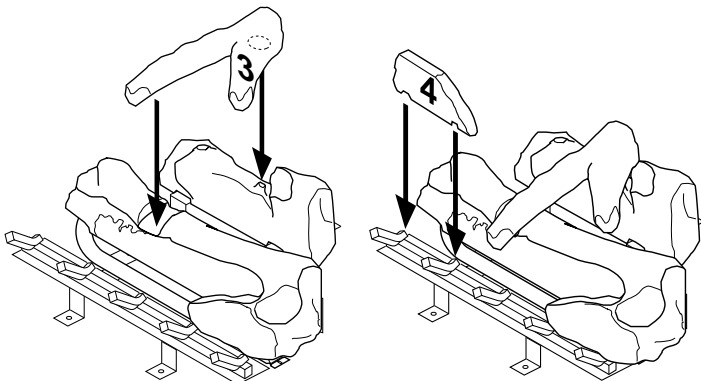

Figure 57 - Installing Log No. 3 Figure 58 - Installing Log No. 4
- Place log #3 (crossover log) onto the rear and front logs. Make sure it is seated properly into the notch on the front log and over the raised triangular portion of the rear log as shown in Figure 57, page 25.